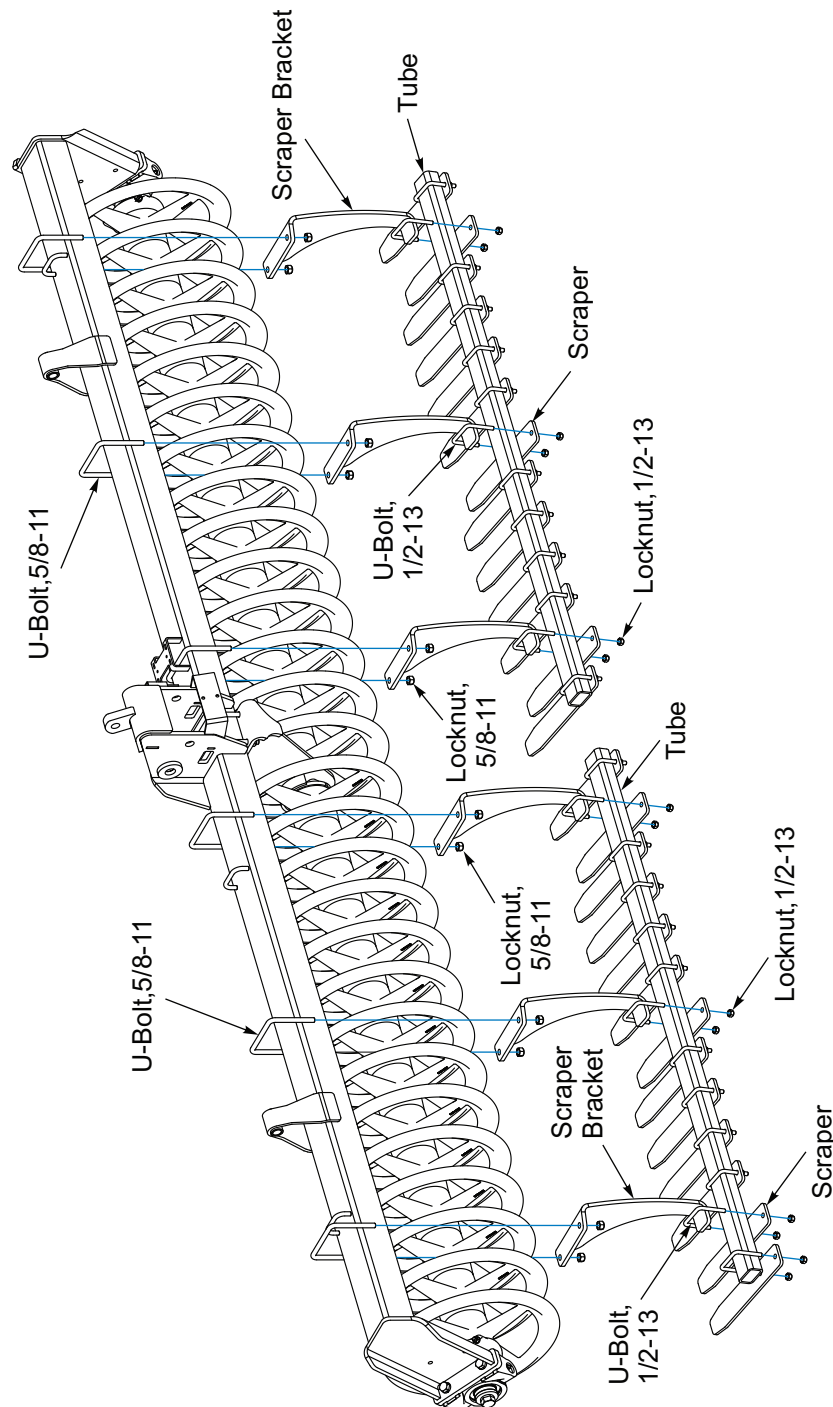

Figure 2-28: V-Wheel Scraper Installation, 14FT - 16FT Models
2. The Scraper Bar is pre-assembled with scrapers attached (spaced approximately 6 inches apart). Remove the twelve Locknuts from the U-Bolts where the Scraper Bar will attach to the Scraper Brackets. **See Figure 2-28.**
2. The Scraper Bar is pre-assembled with scrapers attached (spaced approximately 6 inches apart). Remove the sixteen Flanged Locknuts from the U-Bolts where the Scraper Bar will attach to the Scraper Brackets. **See Figure 2-28.**